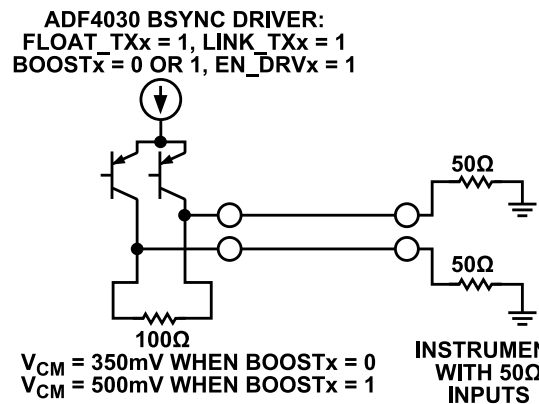
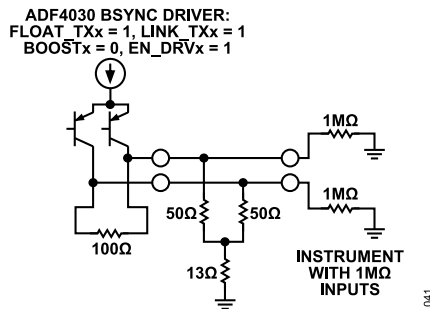

Figure 40. ADF4030 BSYNC Driver to 50 Ω Instrument Connection
Figure 41. ADF4030 Driver to 1MΩ Instrument Connection
- ▶ Instruments that have 50 Ω and 1 MΩ input impedance (Figure 40 and Figure 41)